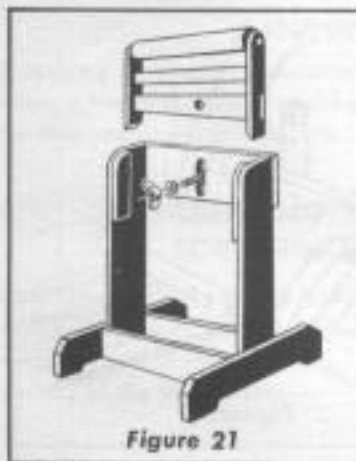

Figure 21
- Do not leave a long board unsupported so that the spring of the board causes it to shift on the table. Use a support to catch end of board behind the blade. If board is quite long, use another support in front of saw blade. (See figure 21.)